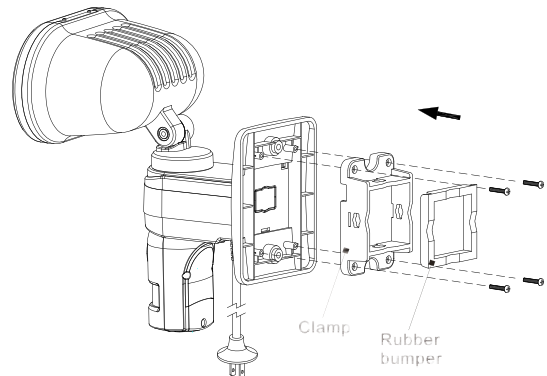

FIGURE 44
(1) Place the clamp to the mounting bracket by securing with four screws provided. Put the rubber bumper around the square protrusion of clamp. (FIGURE 44)